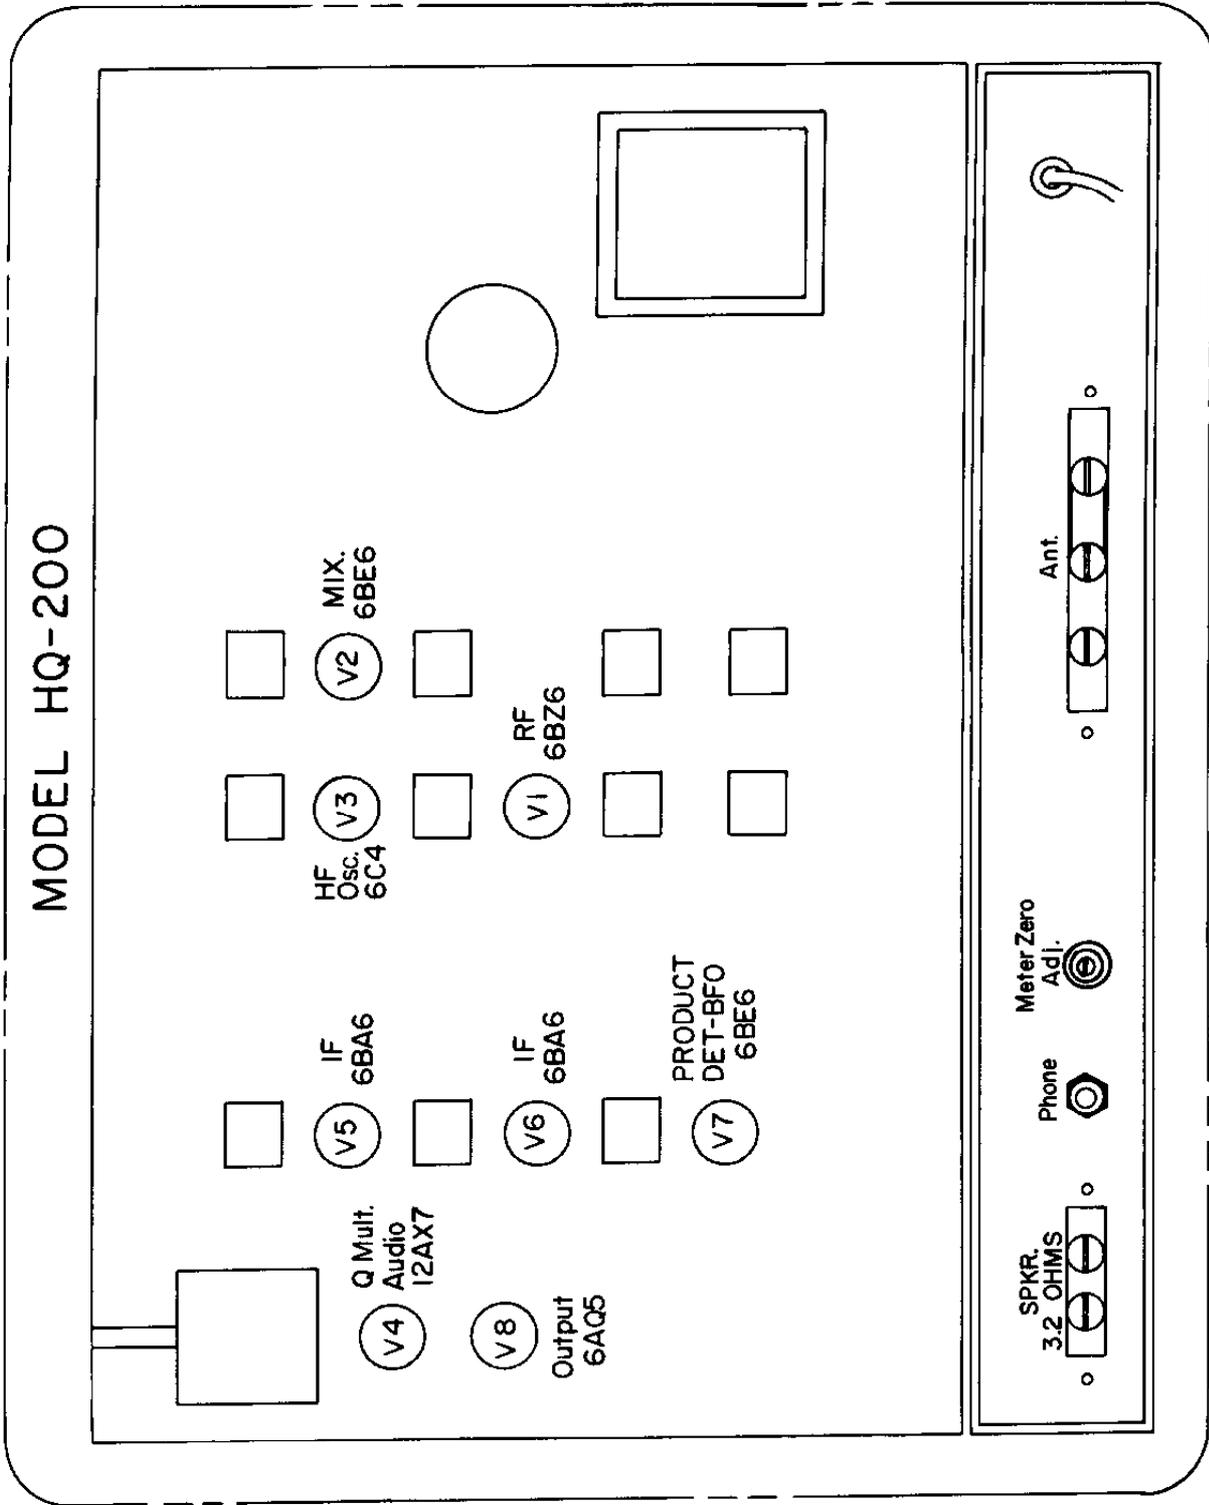
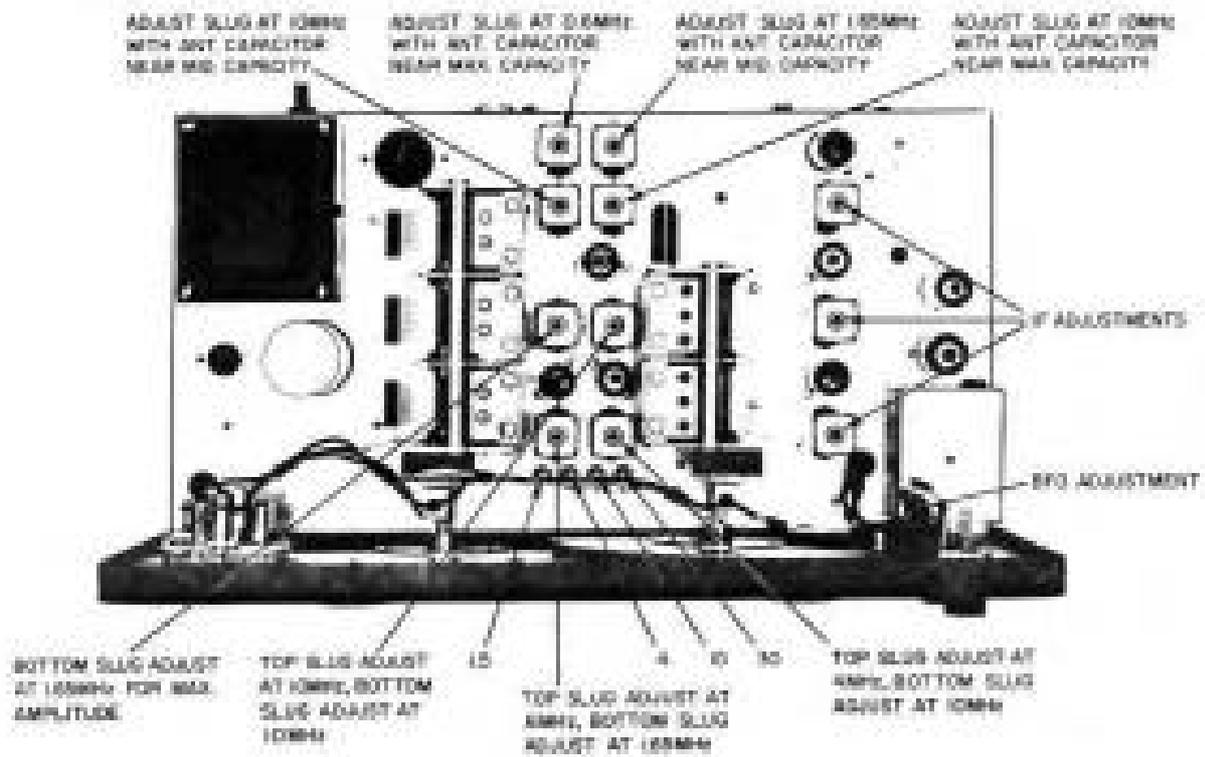

FIGURE 4-1. TUBE LOCATION.
FIGURE 4-2. HQ 200 TOP VIEW.
D. During alignment, adjust the generator output to prevent over-loading. Adjust each of the three IF transformers for maximum meter reading. Topside adjustments (Figure 4-1) are secondaries or grid circuits; bottom of chassis adjustments (Figure 4-2) are primaries or plate circuits. The reading on the voltmeter should be kept below -3.0 volts.
- B. All RF and oscillator slug adjustments are made from the top of the shield cans. See Figure 4-1.
Figure 4-1 indicates the particular adjustment for each band of the receiver and the frequency at which they are to be adjusted.
- B. Check to see that the frequencies at or near the alignment frequencies are "on the line". If not, make minor adjustments of the slugs and trimmers (Figure 4-1) to make them correct.